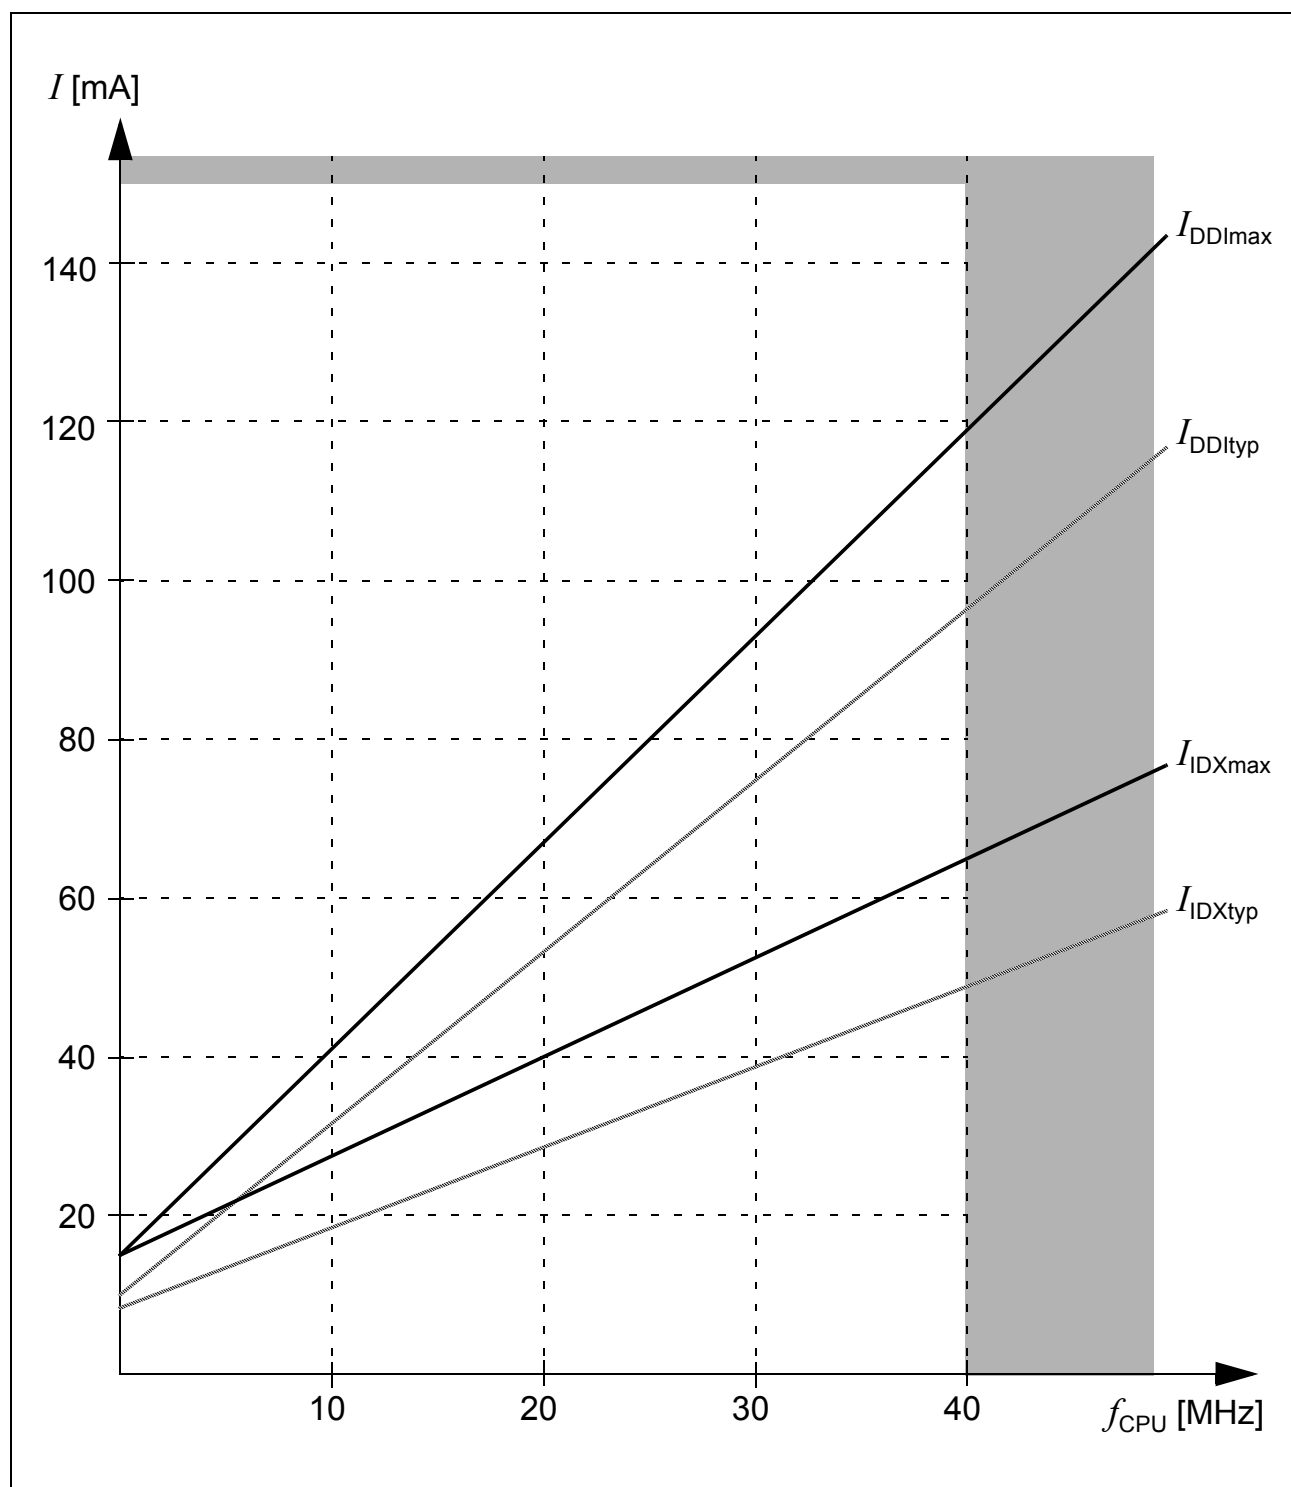

Figure 11 Supply/Idle Current as a Function of Operating Frequency
- 2) The supply current is a function of the operating frequency. This dependency is illustrated in Figure 11. These parameters are tested at V_{DDImax} and maximum CPU clock frequency with all outputs disconnected and all inputs at V_{IL} or V_{IH} .